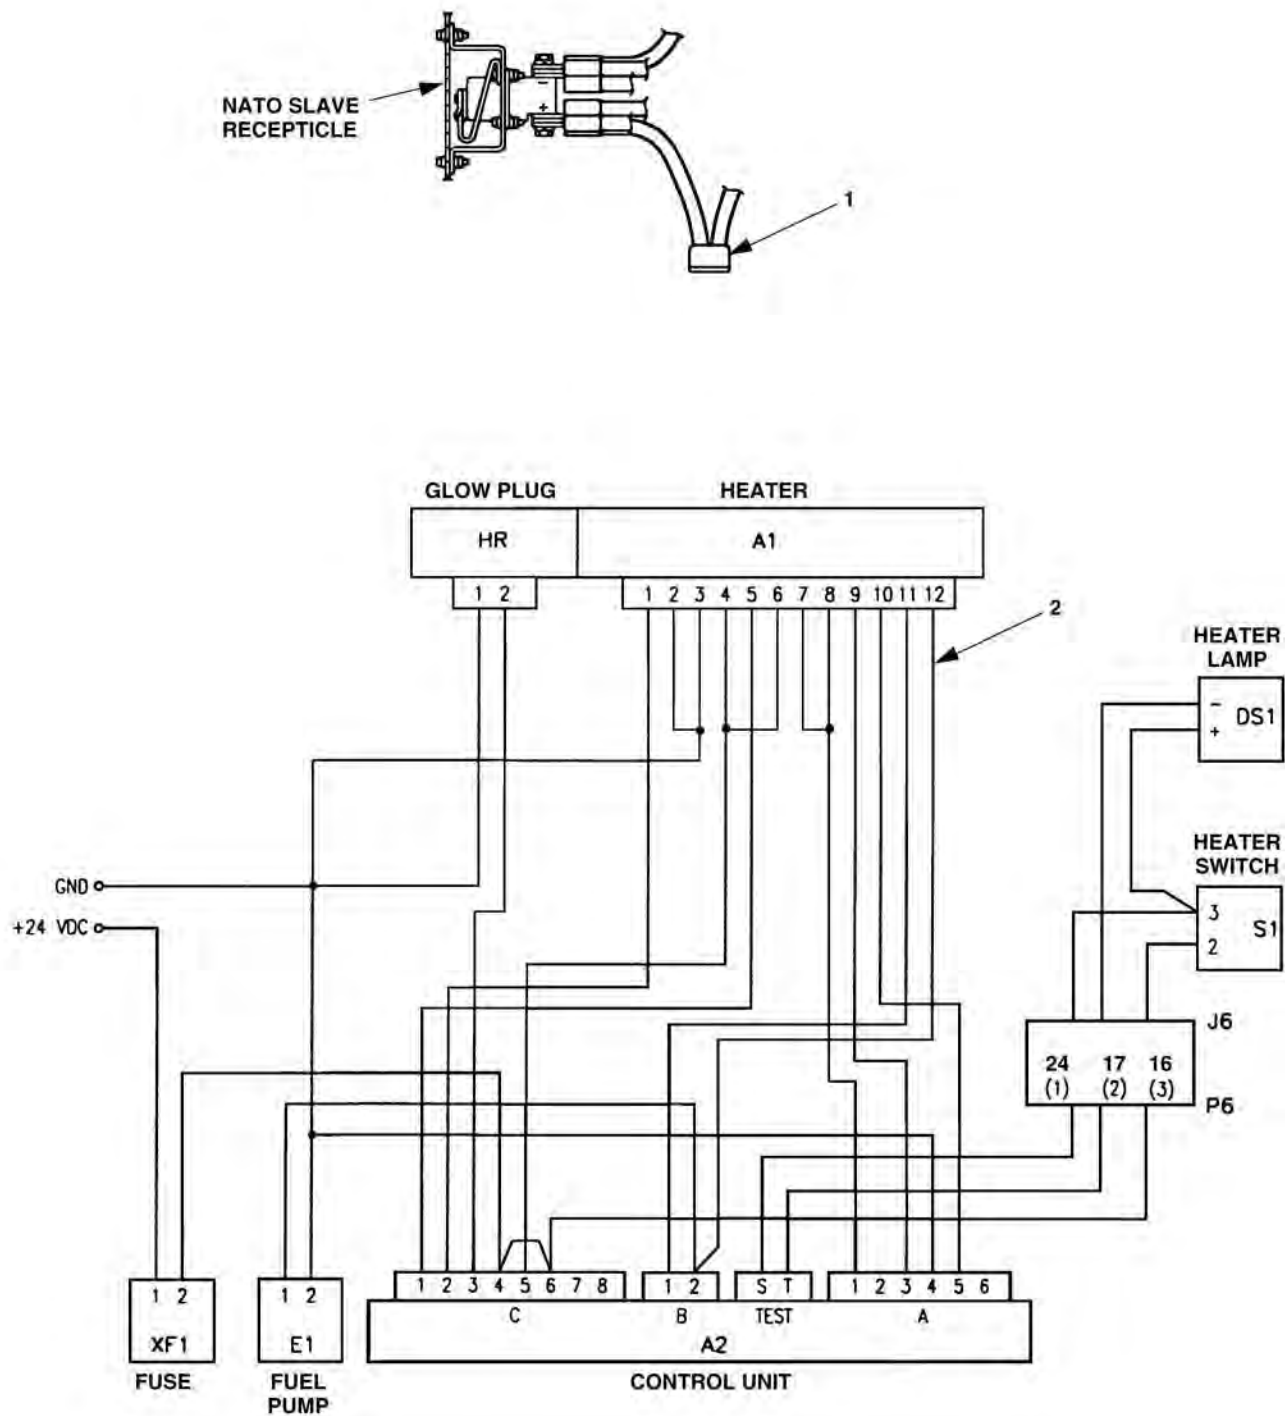
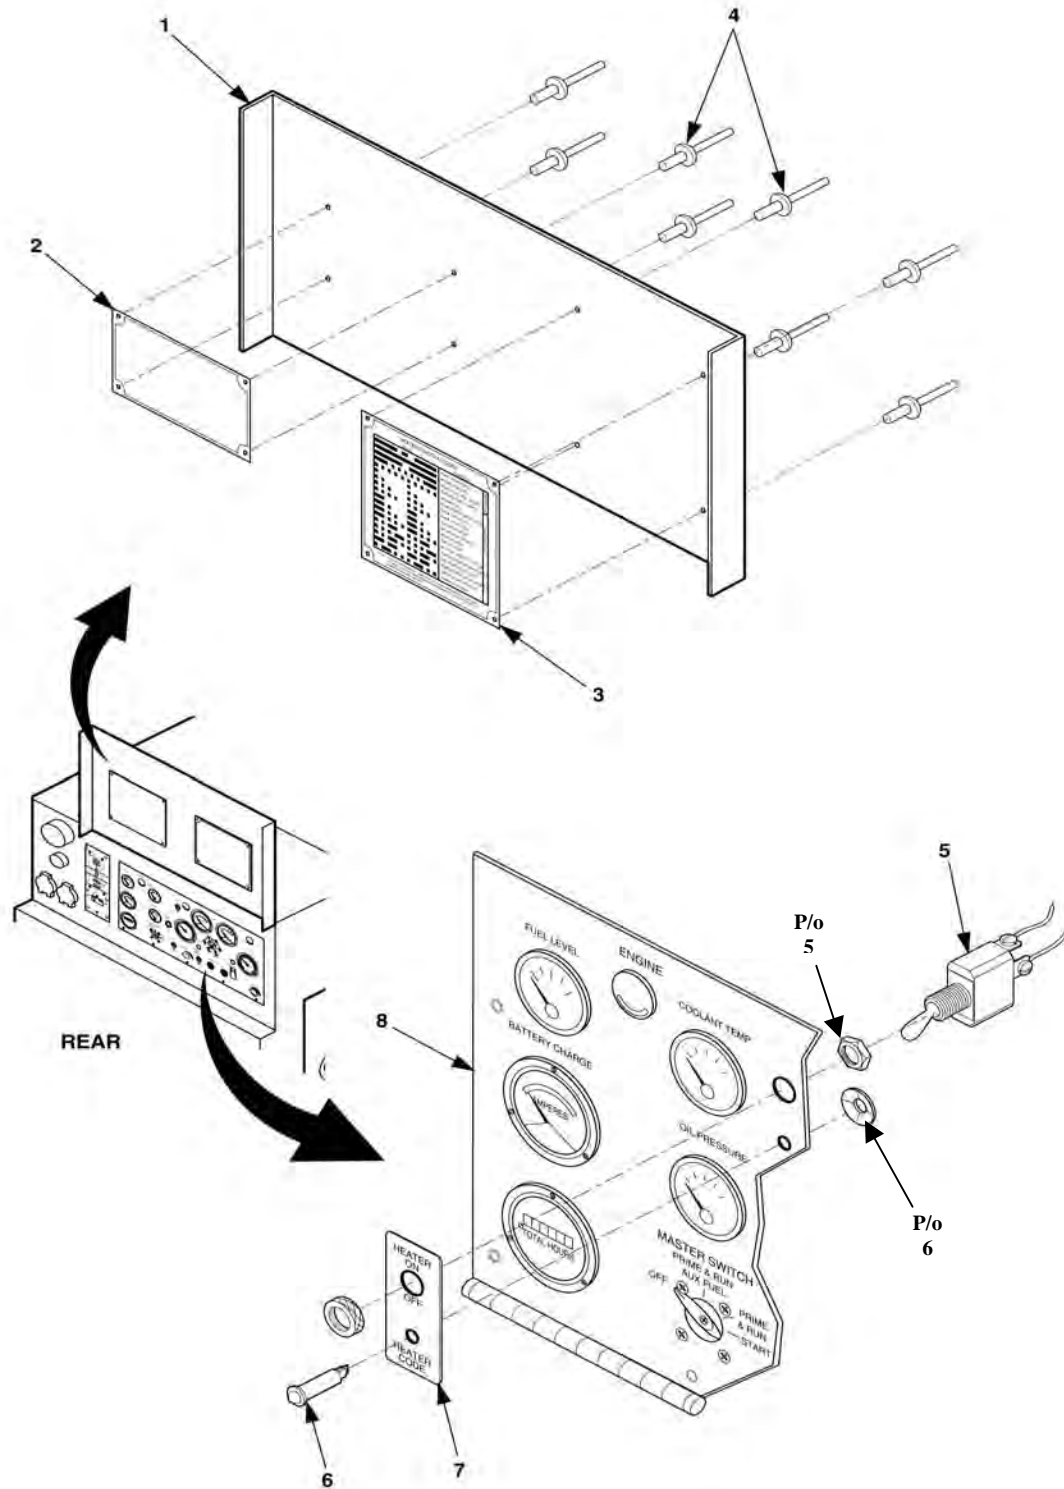

Figure 5-6. Fuse and Wiring Harness
Figure 5-7. Cover and Instrument Panel
18. Remove and discard pins from P6-16, 17, and 24, Figure 5-6.
20. Connect (+) terminal wire of fuse holder (1) to the slave receptacle. Then install fuse XF1 into fuse holder (bottom left radiator housing).
21. Drill a 1/5" hole at lower left hand radiator side stiffener and mount fuse holder (1), using screw, washer, and nut provided in kit. Refer to generator TM 9-6115-643-24.
22. Open control panel access door (1), Figure 5-7.
23. Locate operating instruction plate (2) and heater function codes plate (3) and match drill 3/16" holes in control panel access door (1). Plates shall be readable when the door is open.
24. Install rivets (4). Rivet head shall be to the outside of the unit.
25. Locate heater switch label (7) and drill a 5/16" and a 1/2" hole in control panel (8).
26. Install heater switch label (7), indicator light (6), and toggle switch (5).
27. Remove and discard pins from J6-16, 17, and 24, Figure 5-6.
28. Install electrical leads in accordance with wiring diagram (refer to Figure 5-6). Secure leads with straps contained in kit.